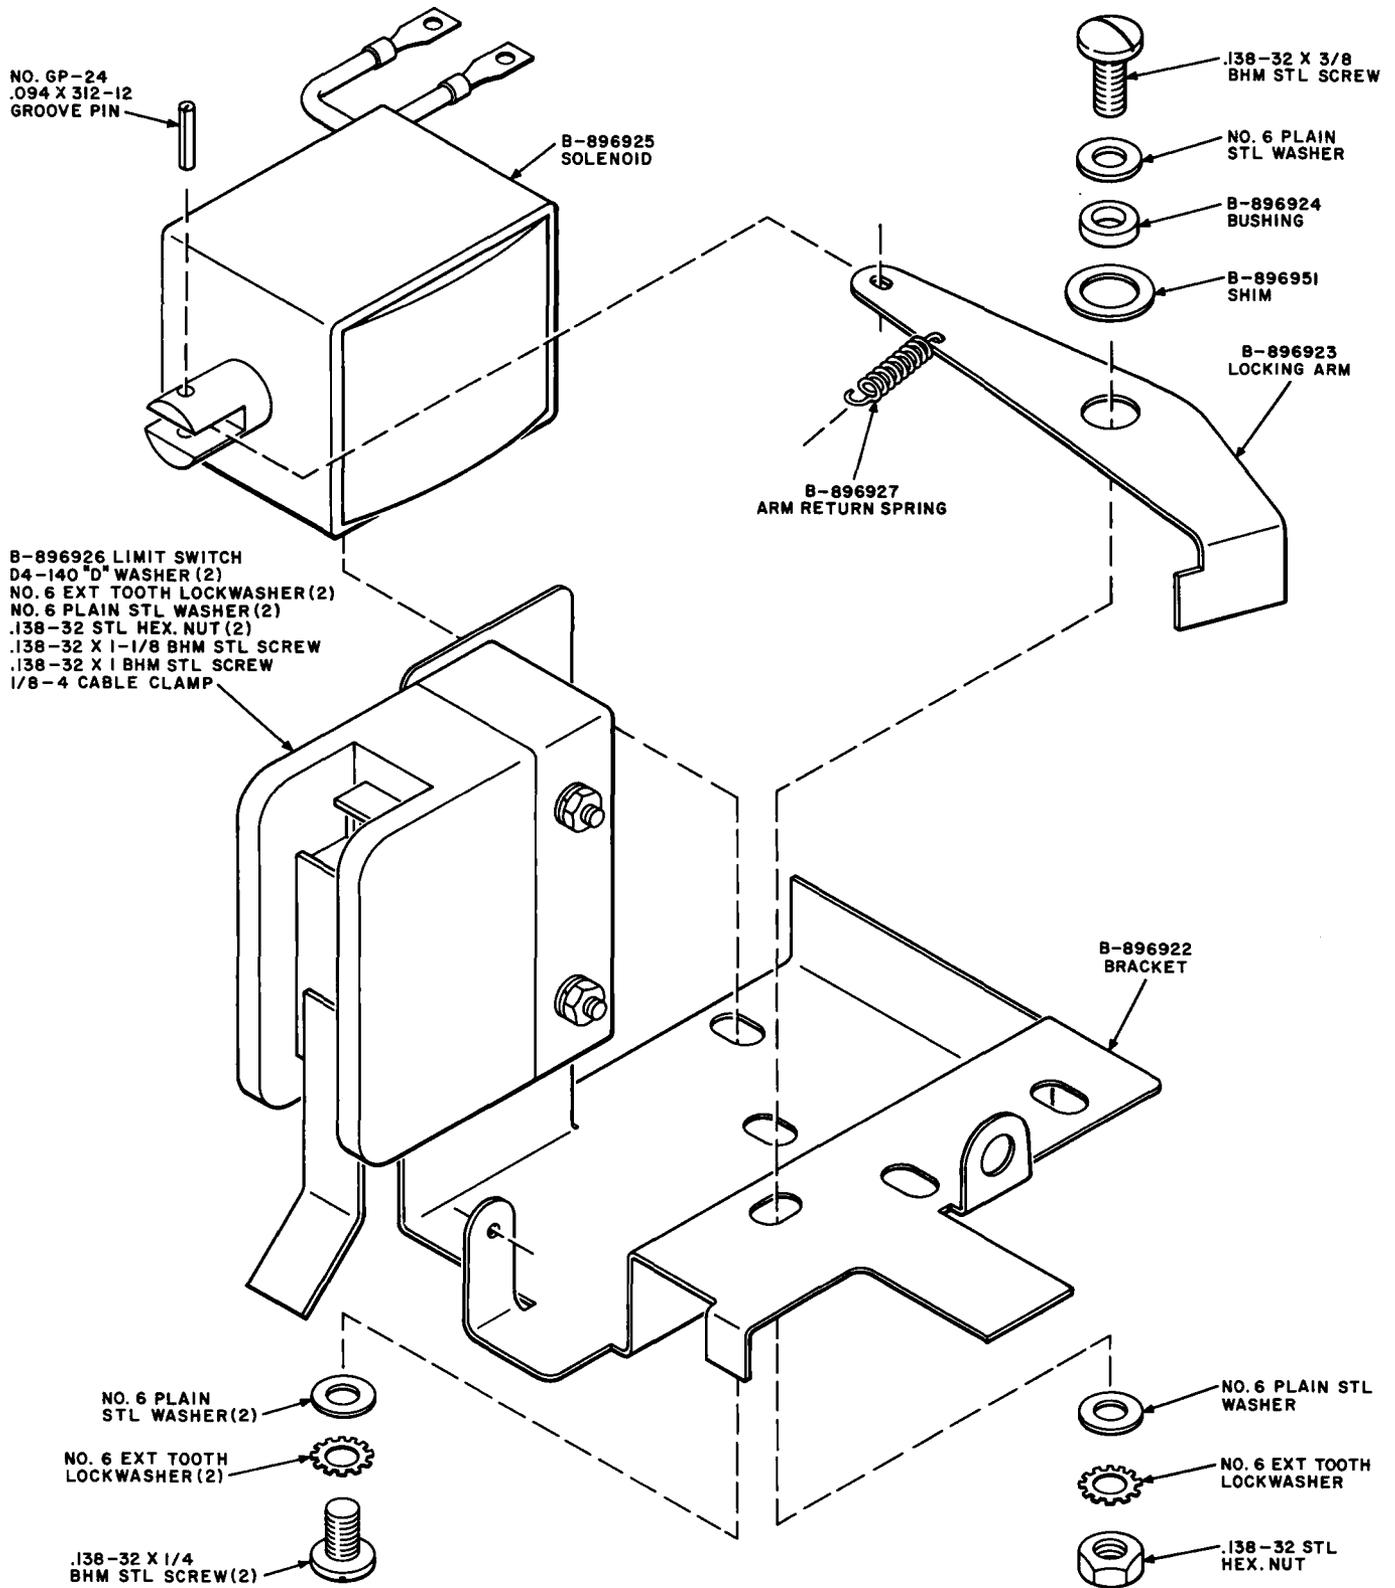

Fig. 17—Pinch Roller Lock Group—Exploded View
(3) Unhook cam return spring from pinch roller lock bracket. Using the 4-inch E screwdriver, remove the two screws holding the bracket to the transport casting; remove the bracket, solenoid, pinch roller limit switch, arm return spring, and locking arm as a group. Use the 3/32-inch drive pin punch to remove groove pin (Fig. 17) from solenoid plunger. Using the 4-inch E screwdriver, remove two screws, lockwashers, and plain washers holding solenoid to bracket; remove solenoid.
(4) To install pinch roller lock solenoid, place new solenoid (Fig. 17) on bracket so that the screw holes in the bracket are aligned with those in the solenoid. Then use the 4-inch E screwdriver to secure solenoid with the two screws, plain washers, and external tooth